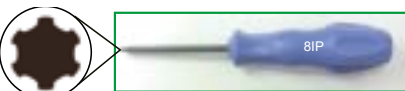

Fig. 1: 'Torx plus' wrench (for MRX)
- See fig. 1 for 'Torx plus' wrench (blue grip)